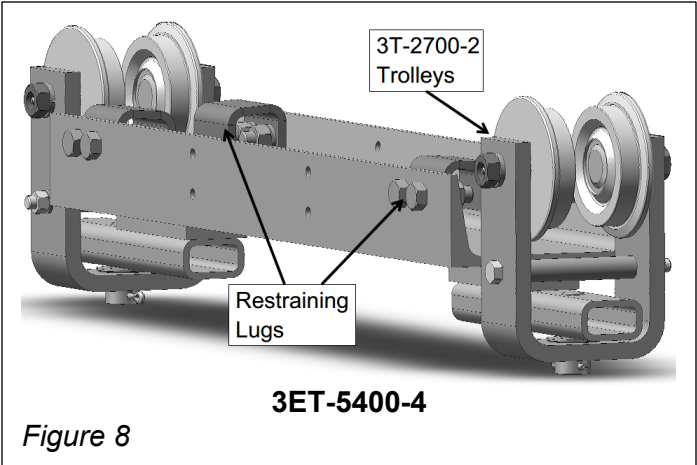

Figure 8
- 3ET-5400-4** 3'-3" wheelbase Figure 8
For general end truck assembly, see Figures 8, 9, 10, 11 and 12.